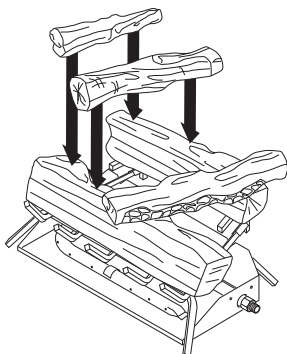

Figure 10 - Installing Middle Logs
5. Place three middle logs on top of bottom logs (see Figure 10, page 10).